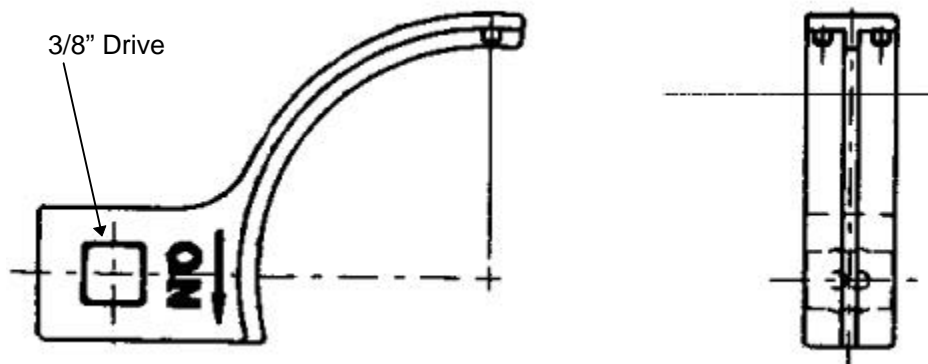

Figure 1. Spanner Wrench for Actuator Collar
Spanner Wrench is labeled to identify correct threaded collar removal (OFF) and installation (ON) orientation. See Figure 1.